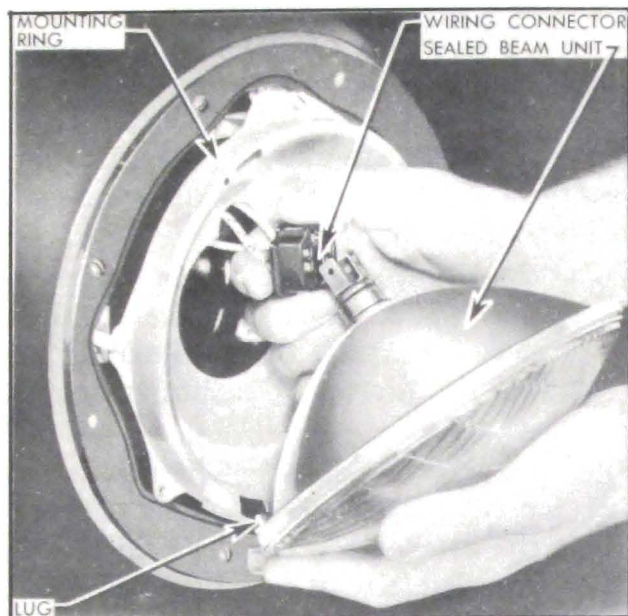

Figure 10-99—Installation of Headlamp Sealed Beam Unit
4. Install new sealed beam unit by reversing removal procedure. The lens is marked "TOP" and the reflector has three lugs which fit into notches in the headlamp mounting ring. See figure 10-99. Before installation of headlamp door, adjust headlamp for proper aim as described below.